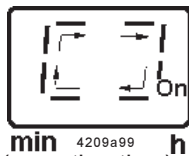

Fig. 20 - Green display (operating time)
- Pump "running" is indicated on the display by a **rotating light movement of the green display** (operating time) (Fig. 20).